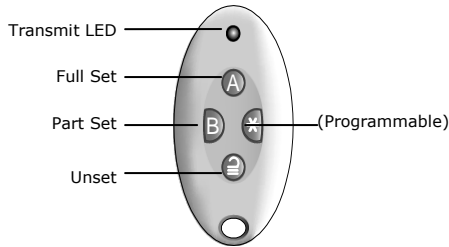

Figure 7. Remote Control Button Functions.
1. Press the appropriate button on the remote control, either full set (A) or part set (B) (see Figure 7).